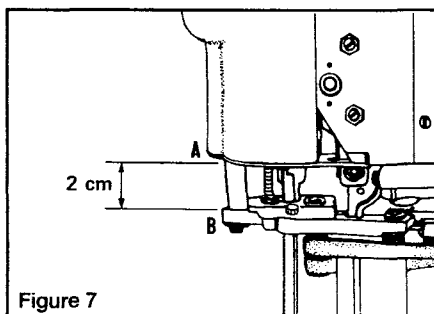

Figure 7
## 2.11 TO SET POSITION OF BAND PLATE CARRIER A374 (Figure 7)
- Figure 7: Measure distance between Cover "A" (A361) and top of Gear Case "B" (A367). Maximum distance is 25/32" (2 cm) when Screw A363 is adjusted properly.